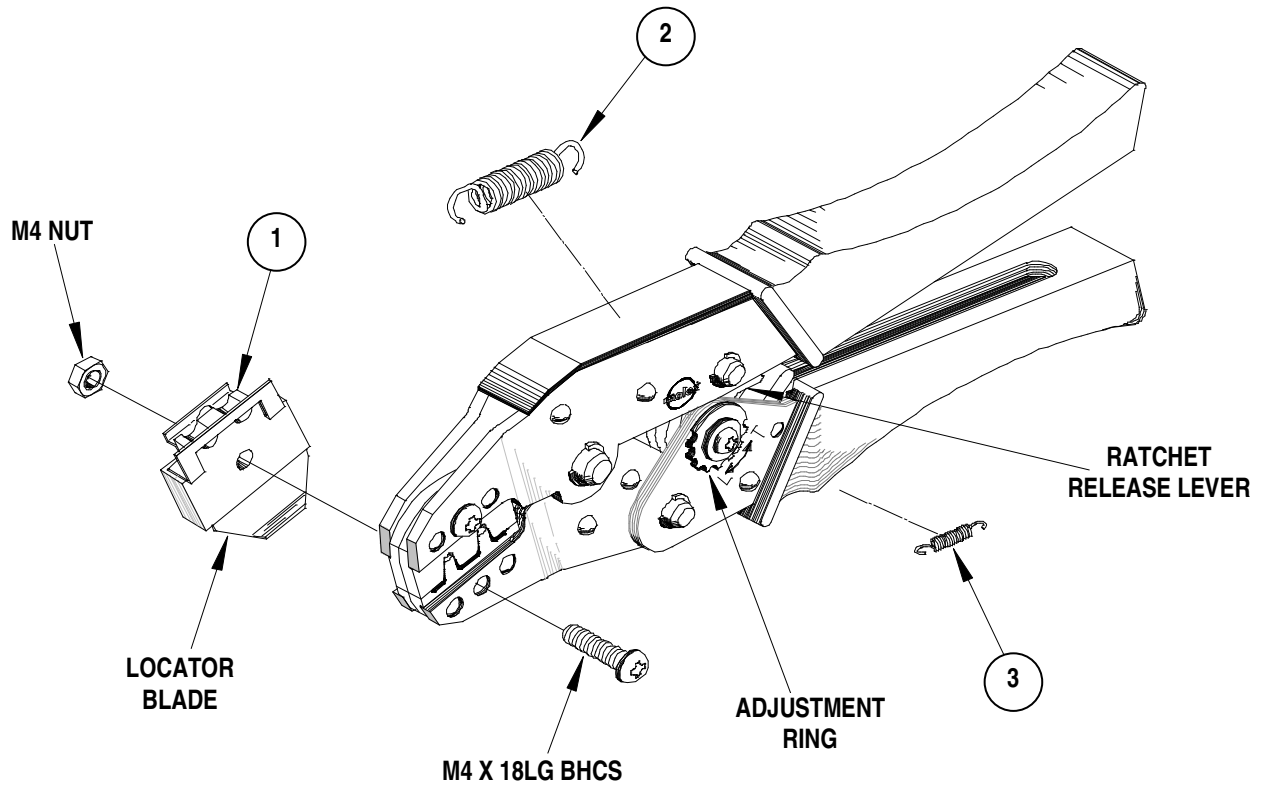

Figure 4
4. Close the tool until the ratchet releases. See Figure 4.
Should this tool ever become stuck or jammed in a partially closed position, **Do Not force the handles open or closed**. The tool will open easily by lifting the ratchet release lever. See Figure 4.
How to Adjust Tool Crimp Force (See Figure 4)